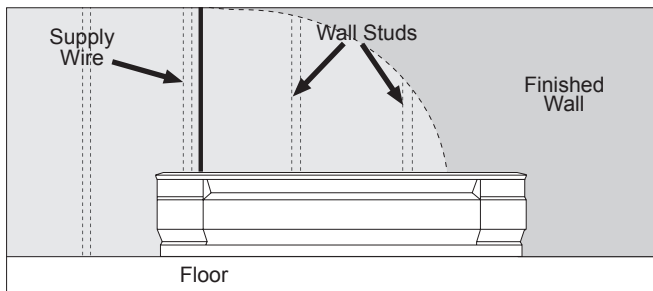

Figure 1
1. Locate wall studs closest to supply wires and position heater (See Figure 1). NOTE: Wire connection is possible from either right or left side of the baseboard heater.